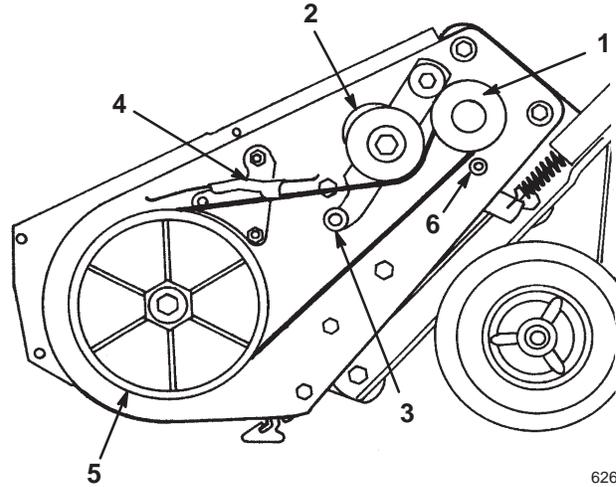

Figure 28
5. Pull up on the idler pulley and remove the old drive belt from the rotor pulley, the brake arm assembly, and the engine pulley (Fig. 28).
6. Loop the new drive belt around the engine pulley, under the idler pulley, over the roller, through the brake assembly, and around the rotor pulley (Fig. 28).
Important The drive belt must be on top of the roller as shown in Figure 28.